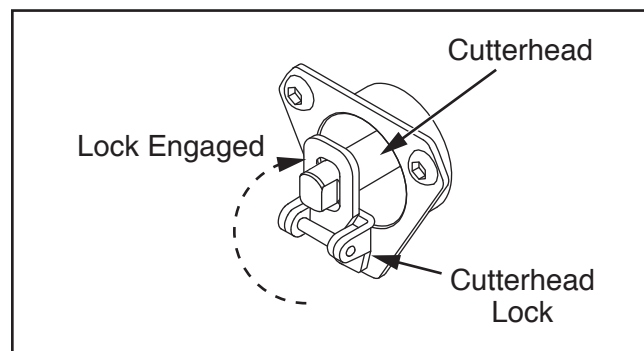

Figure 38. Cutterhead lock engaged.
4. Rotate cutterhead until knife clamp is on top, then engage cutterhead lock by moving lock up and over end of cutterhead, as shown in **Figure 38**.